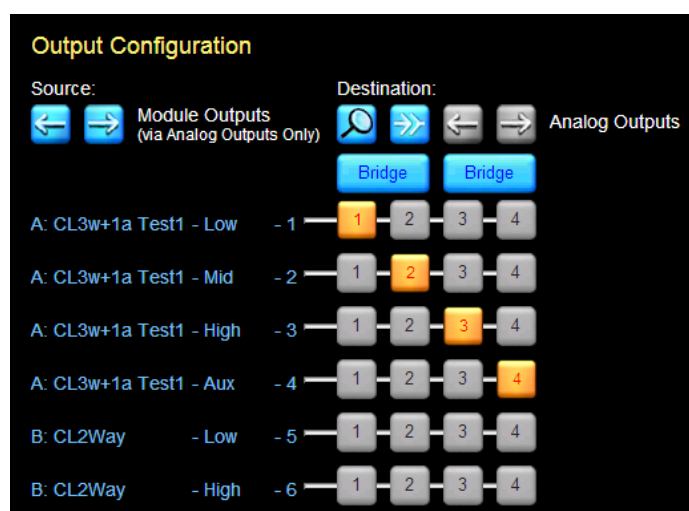

Figure 6-1: Classic 3+1 Analog Output Configuration
27. Verify that the Output Configuration is routed as shown in Figure 6-1 below where Source = Module Outputs and Destination = Analog Outputs.